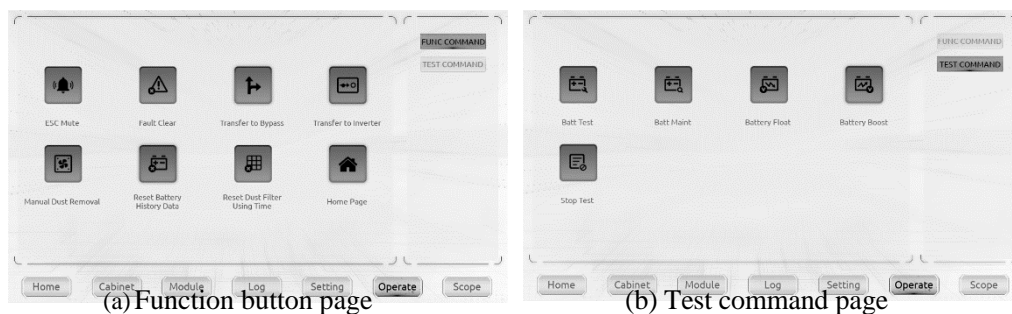

Figure 5-2 Battery Maintenance
1. Manual Discharging test. Enter the menu Operate, as is shown in Figure 5-2 and touch the icon